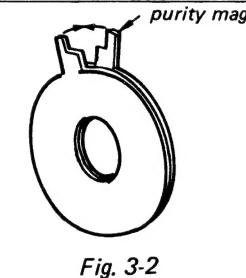
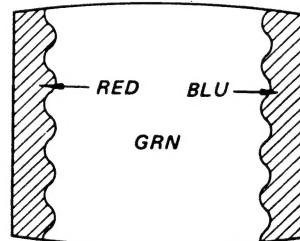

Fig. 3-2
Fig. 3-3
3. Adjust purity magnet tabs as shown in Fig. 3-2.
5. Disconnect leads ⑦ and ⑧ on the C board.
6. Adjust purity magnet tabs to center vertical green band as shown in Fig. 3-3.